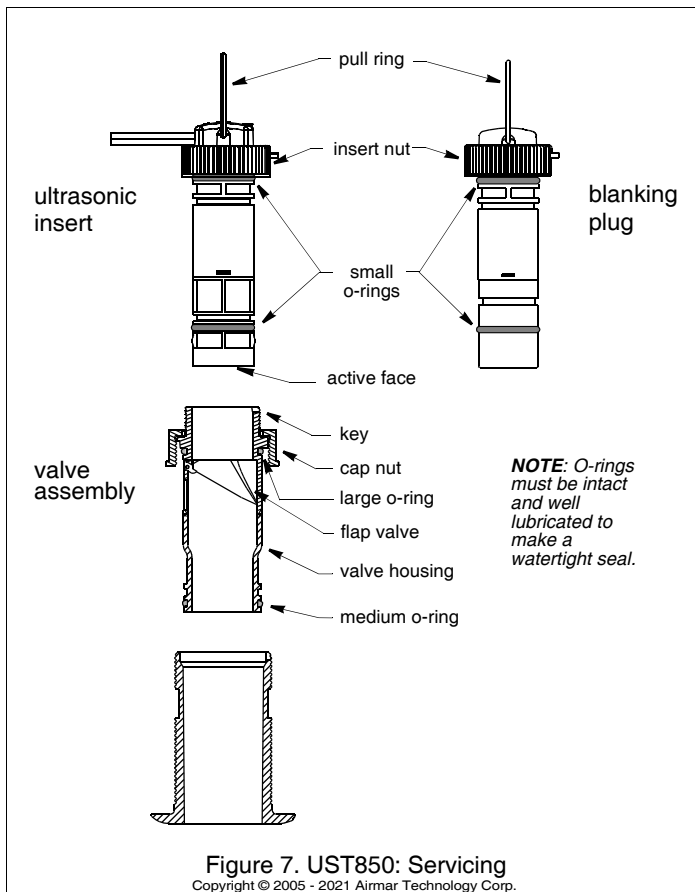

Figure 7. UST850: Servicing
1. Place the *insert* nut on the top of the blanking plug (Figure 7). Attach the pull ring to the plug, capturing the *insert* nut.
3. Unscrew the *insert* nut. **Do not remove the cap nut.** Grasp the pull ring and remove the ultrasonic insert with a slow pulling motion (Figure 7).
4. To free the *cap nut*, remove the ultrasonic insert/blanking plug from the valve assembly by unscrewing the *insert nut* (Figure 7). Grasp the ultrasonic insert/blanking plug by the pull ring and pull upward slowly.
6. Clean, repair, or replace the valve assembly, so the flap valve moves freely and seats against the valve housing (Figure 7).